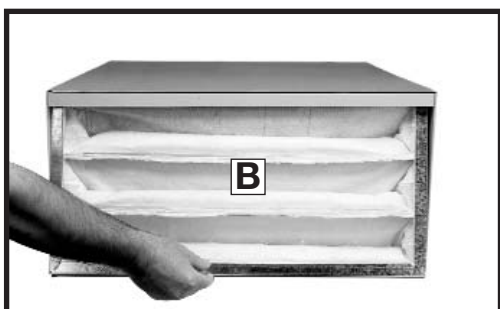

Fig. 9C
4. If the air flow indicator points to “green”, the inner filter is still useable. If the indicator points to “red”, remove the outer filter, then remove the inner filter (B) Fig. 9C by lifting and pulling out on the bottom of the filter. **DO NOT try to clean the inner filter. It is disposable and must be replaced.**